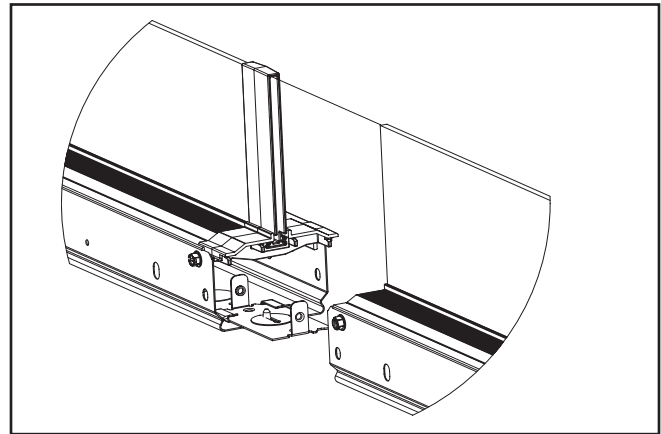

Figure 4.
6. Install next fixture onto the extended portion of the row aligner after removing its end plate (Figure 4 & 5).